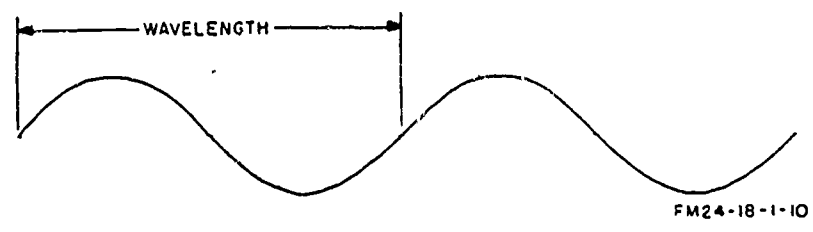

Figure 2-2. Wavelength of a radio wave.
- (1) The electromagnetic waves travel through space at the speed of light, approximately 186,000 miles (300,000,000 meters) per second.
- (2) The length of a radio wave is the distance traveled by the wave during the time interval of one complete cycle. Each complete cycle of two alternations of the wave is one wavelength. Wavelength is normally expressed in meters. The wavelength may be measured from the start of one wave to the start of the next, as shown in figure 2-2, or from the crest of one wave to the crest of the next. It is computed by dividing the velocity by the frequency.